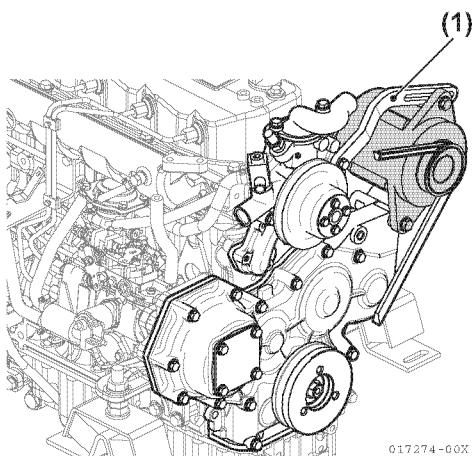

Figure 11-7
4. Loosen the alternator adjuster bolt (**Figure 11-7, (1)**) and relieve V-belt tension. Remove the V-belt. *NOTICE: If belt is to be reused, note direction of travel and install in same direction of travel.*